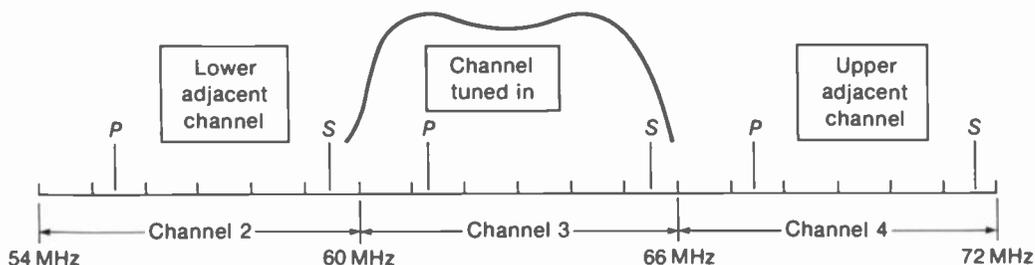

FIGURE 19-16 EXAMPLE OF CHANNELS 2 AND 4 AS ADJACENT CHANNELS WHEN RECEIVER IS TUNED TO CHANNEL 3.
**Adjacent channel interference.** When the picture signal of the upper adjacent channel is strong enough, the side bands corresponding to low video frequencies can beat with the desired picture carrier. Then picture information of the interfering station is superimposed on the desired picture. Most noticeable is the vertical bar produced by horizontal blanking, as it drifts from side to side because of the slight difference in horizontal phasing between the two signals. This is generally called *windshield-wiper effect* (Fig. 19-15b). The remedy is a more directional antenna, but the IF selectivity can also be improved by wavetraps tuned to reject the adjacent channel intermediate frequencies because they are outside the required IF pass-band. In the lower adjacent channel, its sound signal can interfere with the picture. Figure 19-16 illustrates how channels 2 and 4 are adjacent to channel 3, as the station tuned in.
6. Give an example of adjacent channel interference, other than the example of channels 2, 3, and 4 in Fig. 19-16.
1. Refer to the example of adjacent channels in Fig. 19-16. (a) Calculate the carrier frequencies of *P* and *S* for channels 2, 3, and 4. (b) With the rf local oscillator at 107 MHz to tune in channel 3, calculate the IF values of *P* and *S* for the three channels.